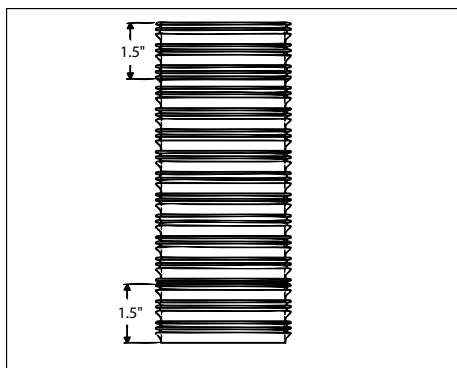

Figure 11
2. Make 4 marks on both ends of liner 90° apart 1 1/2" from each end as shown in **Figure 11**. These marks will act as the reference point for when the adapters are fully seated onto the flex liner.